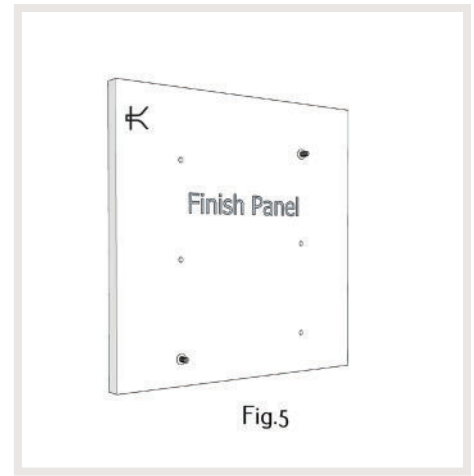

Fig.5
7. Install a supplied plastic washer over each of the two set screws. **\*Fig5**